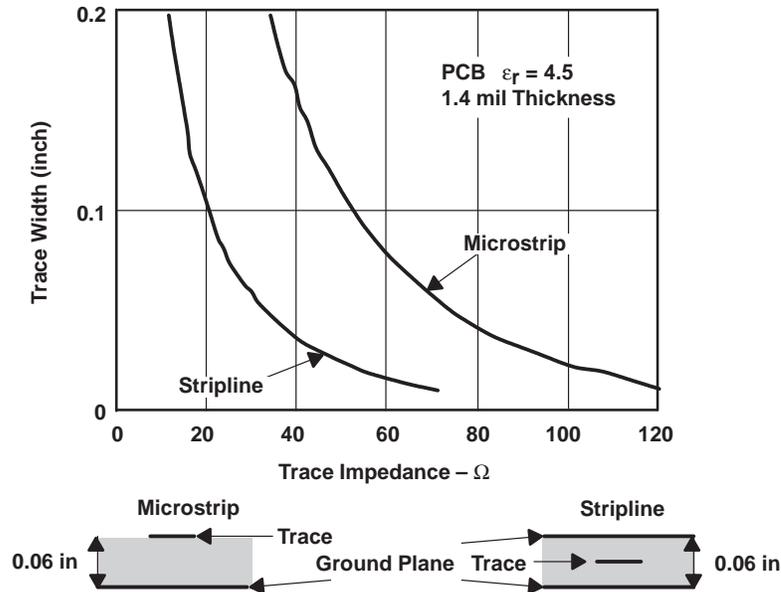

Figure 4. Trace Width on Standard PCB's
- All connection traces on the PCB less than 2 inches can be considered as a lumped capacitive load. Stripline techniques should be used for longer distances of the connections. These traces should be designed with characteristic impedances as required by the application. The graph in Figure 4 shows the trace and PCB dimensions for different impedances and stripline techniques. Mismatching at the impedance transitions can lead to reflections with high signal levels. These reflections are added to the original signal, either making it erroneous or even erasing it entirely. The impedance for a cable (50Ω for coaxial) is in general much lower than the impedance of a stripline on the PCB. The use of higher impedances for signal distribution on the PCB will improve signal quality.